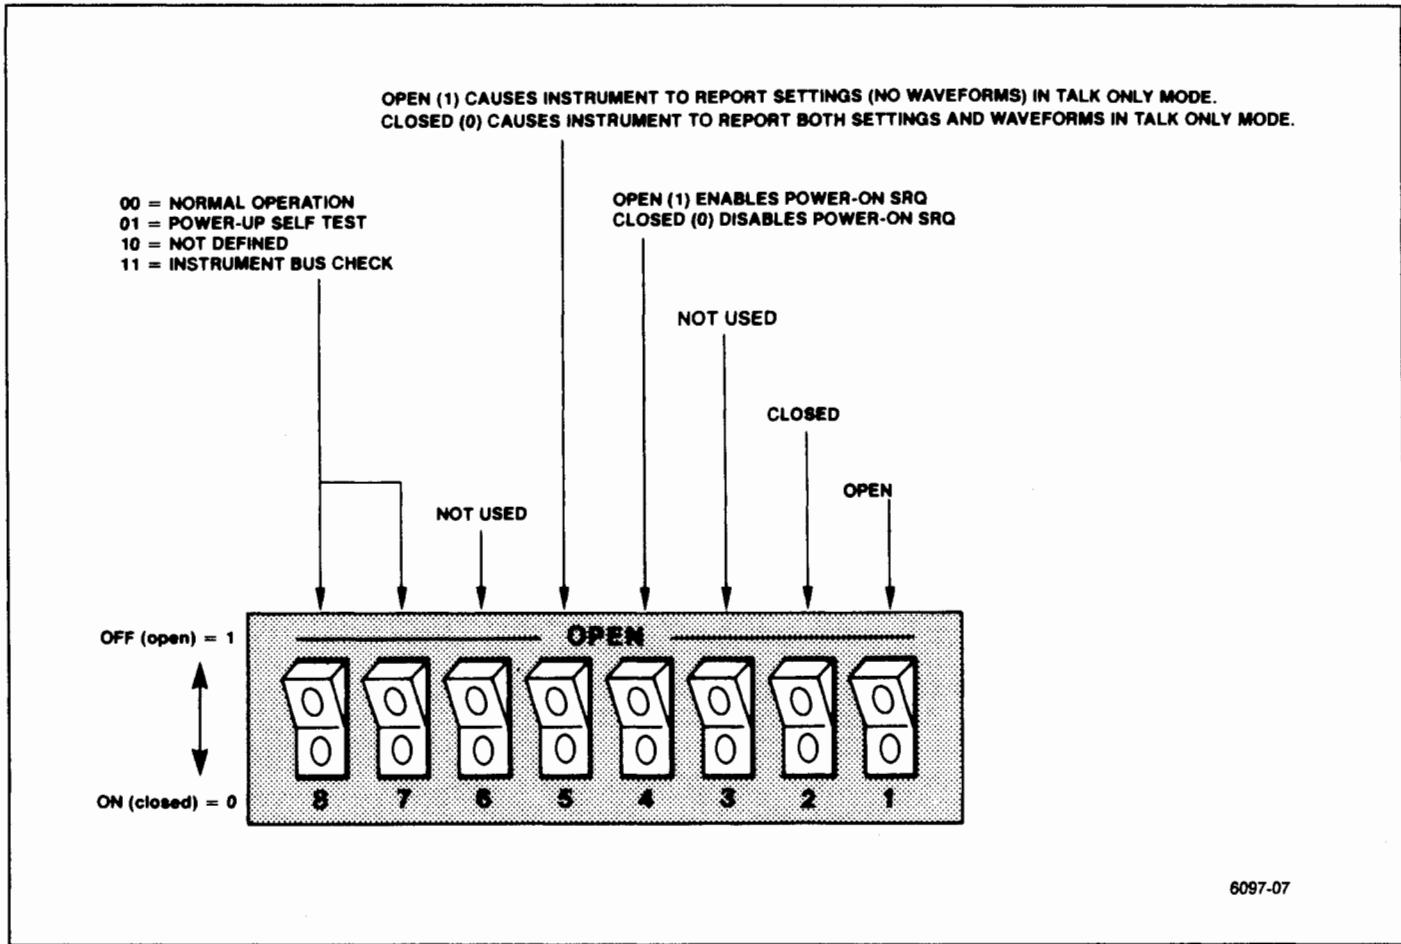

Figure 7-33. Options switch bank on the Memory board.
**Options.** The Options Switch settings tell the microcomputer which instrument options are installed so that the appropriate firmware is used. It also enables diagnostic checks and allows reporting only settings over the GPIB in Talk Only mode. Figure 7-33 shows the switch settings. See the Maintenance section for more information about using the switches.